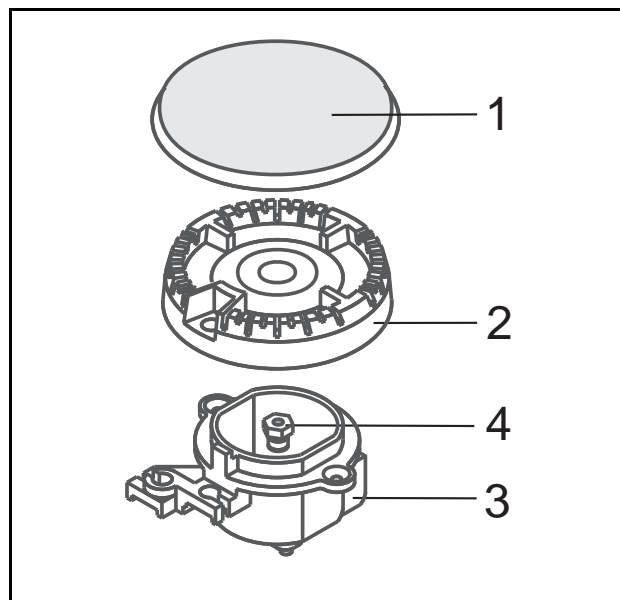
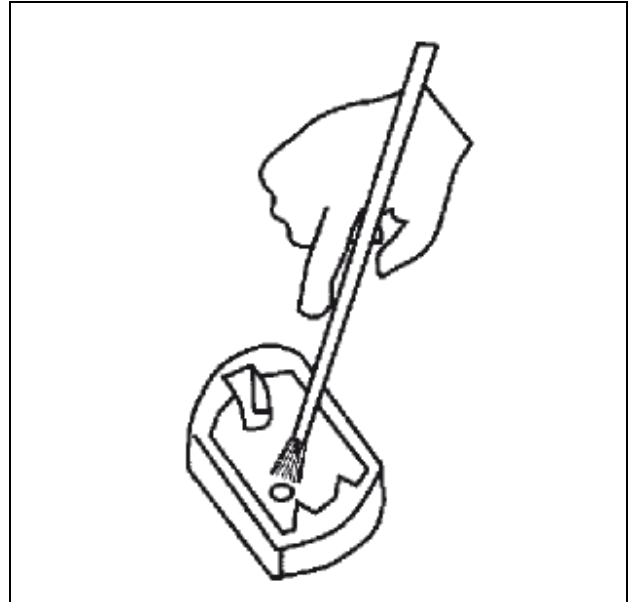

Fig.16
Fig.17
- To remove remnants of food from the hob use a wooden spatula or a special tool (fig.16), taking care not to scratch the glass surface of the hob.
- To clean burners remove the lids 1 and rings 2 (Fig. 16), put them in warm water with detergent for some time and then wash each part of the burner separately.
- Ensure that the burner body, particularly near the nozzle, is always clean. Dirt accumulating around the nozzles 3 (fig.16) may clog it, as a result of which the burner will not light or will light only with a faint flame. To clean the nozzles use a brush soaked in solvent (fig. 17).